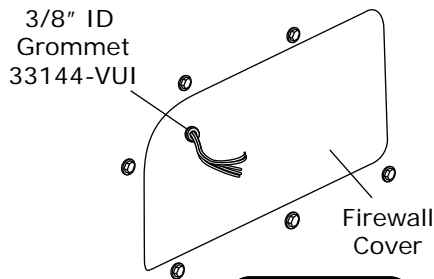

Figure 18
2. Route A/C wires (12 volt/grounds/binary switch/heater valve) through 3/8" grommet as shown in Figure 18, below.